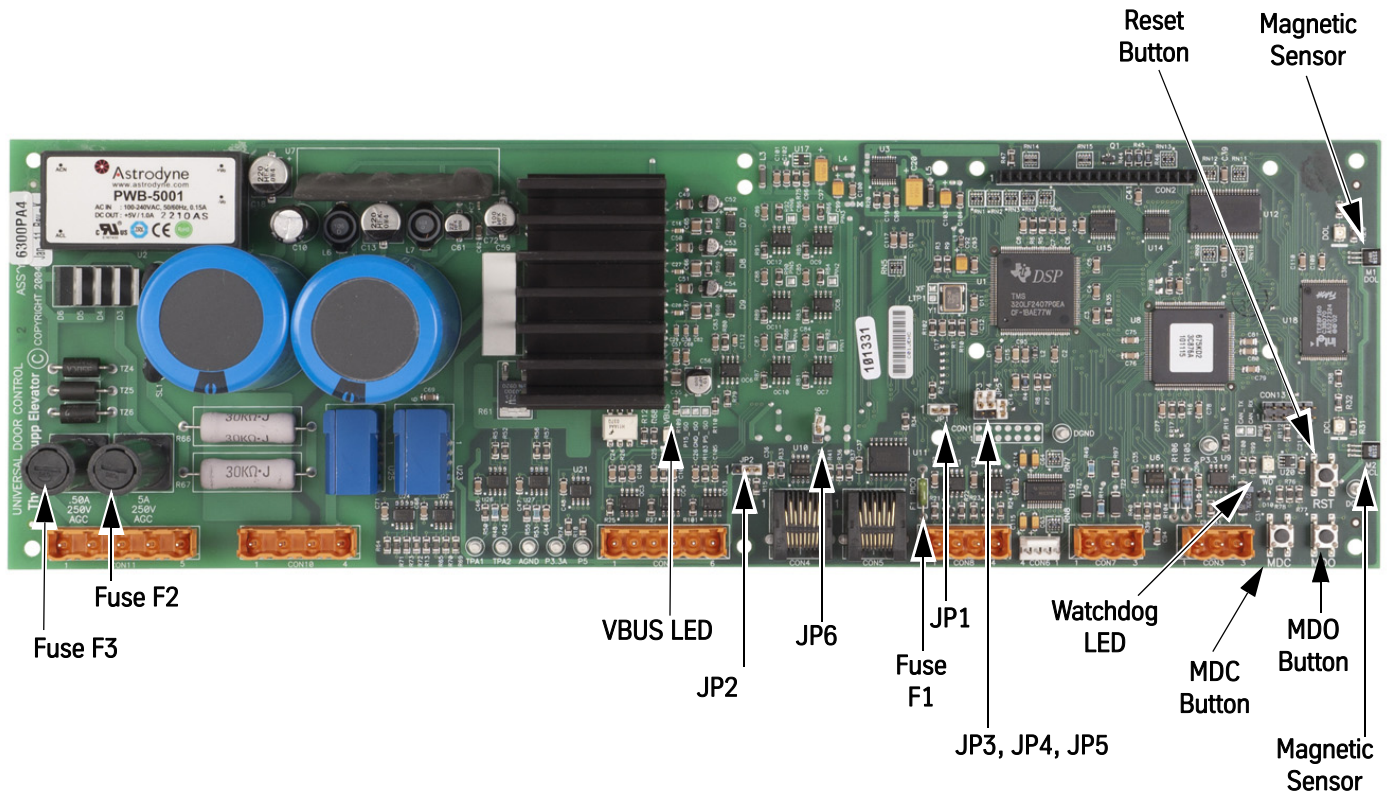

Figure 11 - 6300PA4 Door Operator Card
9. Ensure that the door configuration jumpers on the door card are installed per Table 1. See Figure 11 on page 21 for locations.